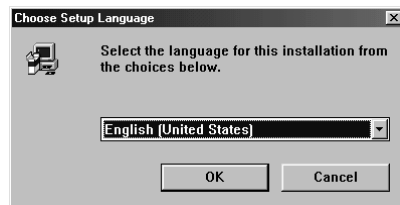

Figure 31: Installing PhotoExpress 2.0
2. The CD-ROM will start automatically. Figure 31 will pop up on your screen. Proceed with step 5. If the CD does not start automatically, start it up manually.
4. Type [D:\SETUP.EXE] in the command line and click on 'OK' to start the program. Figure 31 will pop up.
5. Select the language you wish to use for installing Ulead Photo Express 2.0 and click on 'OK'. (Figure 31). The welcome window will pop up.